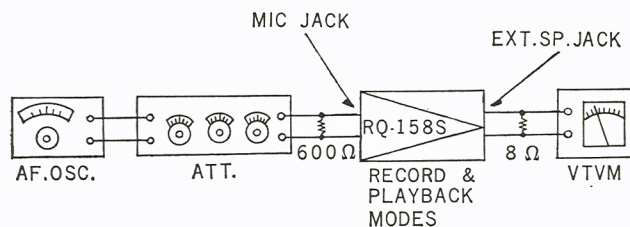

Fig. 7
Measuring Circuit: Refer to Fig. 7
1. As shown in Fig. 7, connect output of AF Oscillator to Microphone Input Jack of model RQ-158S through
1. As shown in Fig. 7, connect output of AF Oscillator to Microphone Input Jack of model RQ-158S through Attenuator (terminate with 600 Ω if impedance of attenuator is 600 Ω).